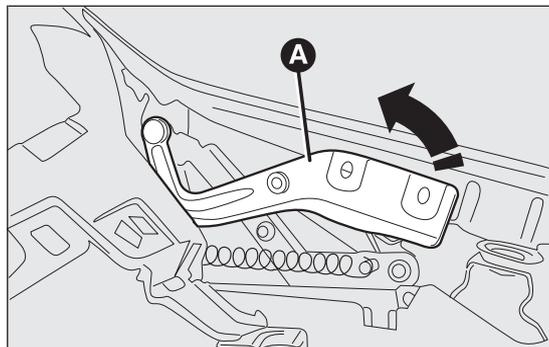

fig. 84
- lift the engine bonnet supporting lever A fig. 84 and move it until it clicks.